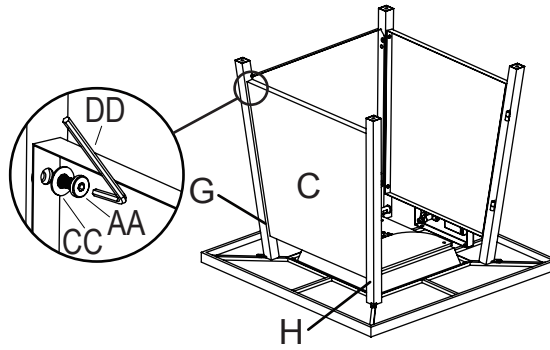

Figure 5
5. Attach back panel (C) to back-left leg (G) and back-right leg (H) with bolts (AA) and washer (CC) using hex screw driver (DD), (see Figure 5).